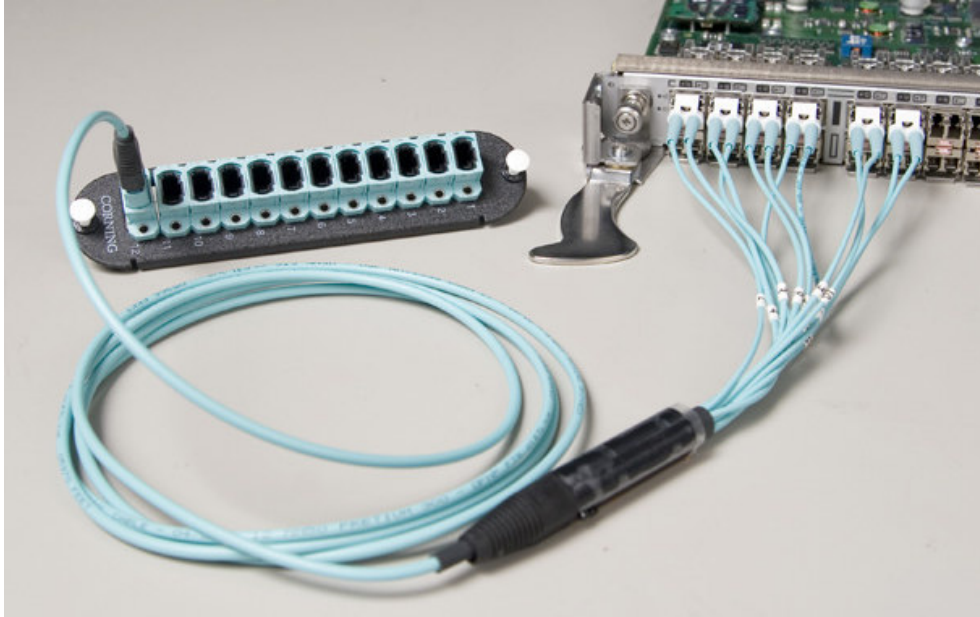

Figure 4. LC-MPO fan-out cable consolidates six duplex LC ports into one MPO connection.
Using fiber cable assemblies that have a single connector at one end of the cable and multiple duplex breakout cables at the other end is an alternative to alleviate cable management. Multifiber Push-On (MPO) cable assemblies are designed to do just that. The idea is to pre-connect the high-density, high-port-count Lucent Connector (LC) equipment with LC-MPO fan-out cable (shown in Figure 4) to dedicated MPO modules within a dedicated patch panel. Once fully cabled, this patch panel functions as if it were “remote” ports for the equipment. These dedicated patch panels ideally should be located above the equipment whose cabling they handle for easier access to overhead cabling. Using this strategy drastically reduces equipment cabling clutter and improves cable management.
As an example, the MPO module shown in Figure 4 is housed into a modular patch panel installed above a Fiber Channel director switch at the EDA. MPO trunk cables are used to link this patch panel to another modular patch panel located at the HDA. The patch panel at the HDA converts the MPO interface back to the LC interfaces using MPO-to-LC cassettes. MPO trunk cables can accommodate up to 72 individual fibers in one assembly; providing 36 duplex connections.